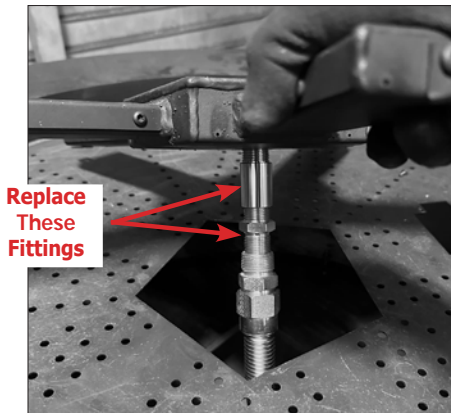

Figure 25: Burner Fittings to Replace
3. Remove the NG pilot orifice (shown in Figure 25) from the flexible gas line and the pilot assembly, and replace it with the LP pilot orifice.